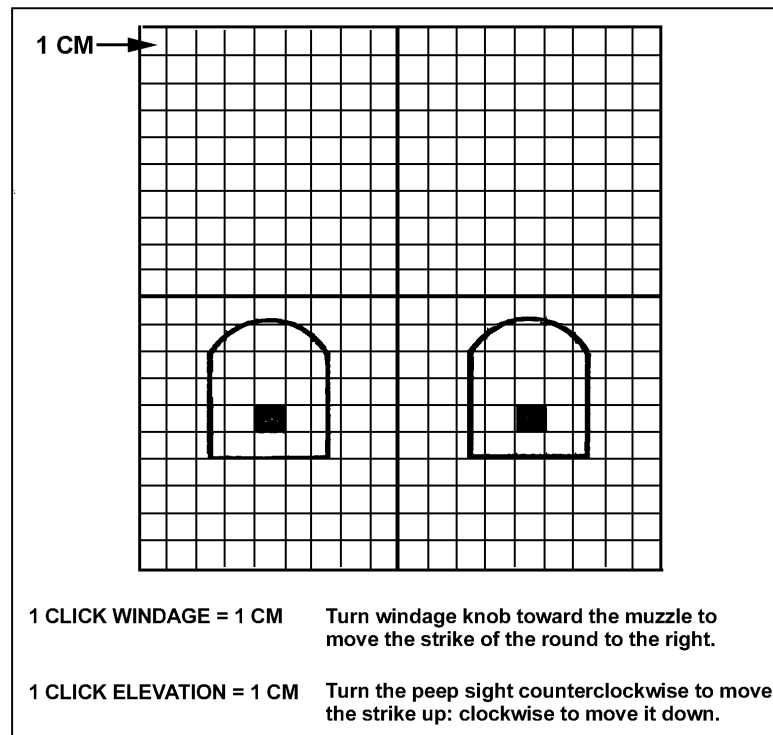

Figure 4-14. Grid square overlay.
c. **Grid Square Overlay.** This device assists the gunner in zeroing his weapon at 10 meters, while using the basic machine gun target (Figure 4-14). The grid square overlay is used the same as an M16 25-meter zero target, except the material can be made of plastic or view graph transparency. Each square is equal to 1 cm.